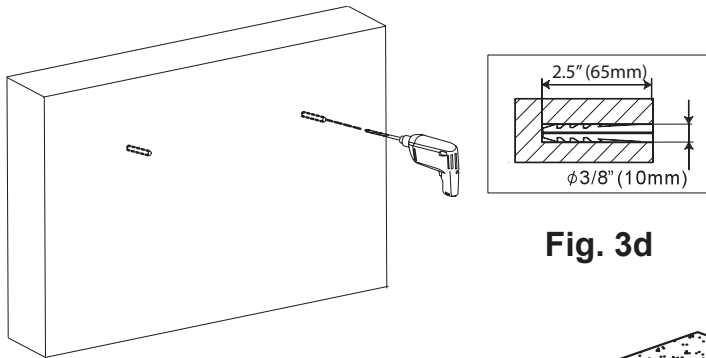
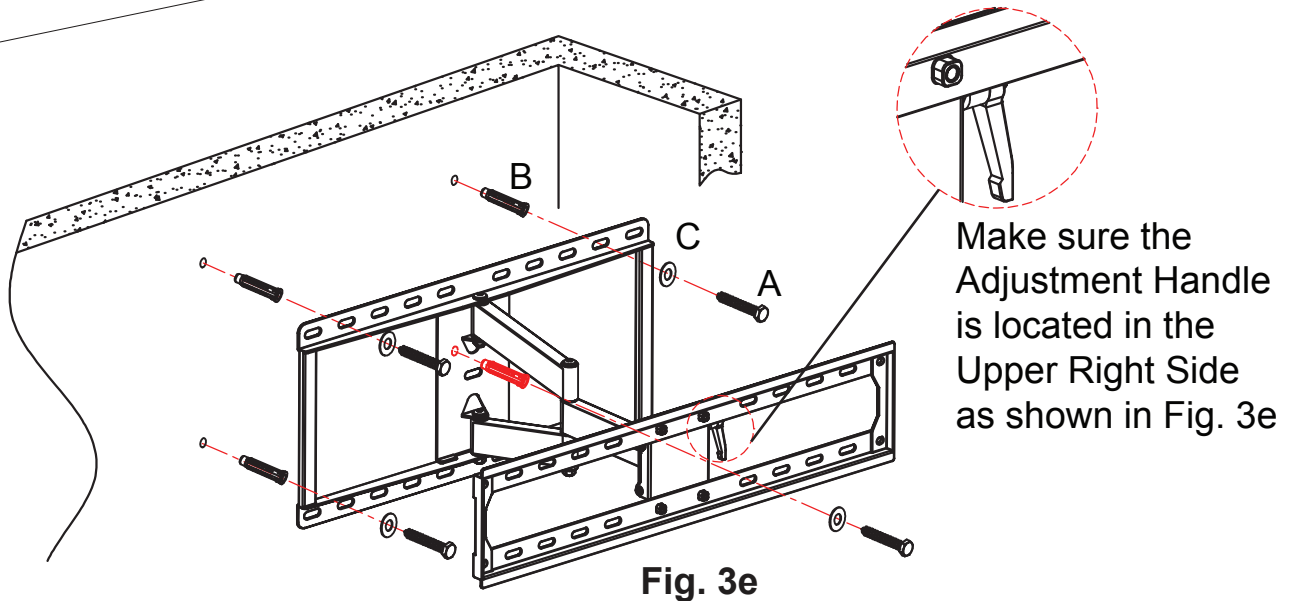

Fig. 3d
Fig. 3e
2. Use 3/8" (10mm) drill bit to pre-drill four holes at least 2.5" (65mm) deep (Fig 3d) at the marked locations.
3. Insert a wall anchor (B) into each pre-drilled hole and lightly tap it with a hammer until the wall anchor is flush with the wall.
4. Use a wrench, the four long bolts (A) and washers (C) to attach the wall mount to the wall with the wall anchors (Fig. 3e).